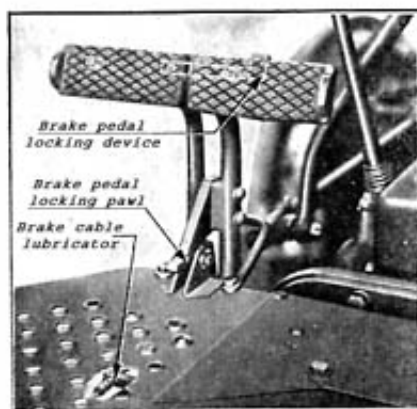

Figure 4
8. Do not run the tractor downhill with the gears in neutral or with the clutch released. Engage either first or second gear and use the governor or throttle lever to control the speed of the engine. To bring the tractor to a complete stop, declutch and apply the hand brake. It is good practice to lift the pawl from the ratchet when pulling "on" the handbrake as this saves wear on these parts. When the footbrake pedals are fitted the tractor wheels may be locked by first engaging the latch which locks both pedals together and then pressing down the pedals to apply the brakes. When firmly applied, engage the pawl which will then enter one of the serrations of the sector (see also page 15 and Fig. 4).